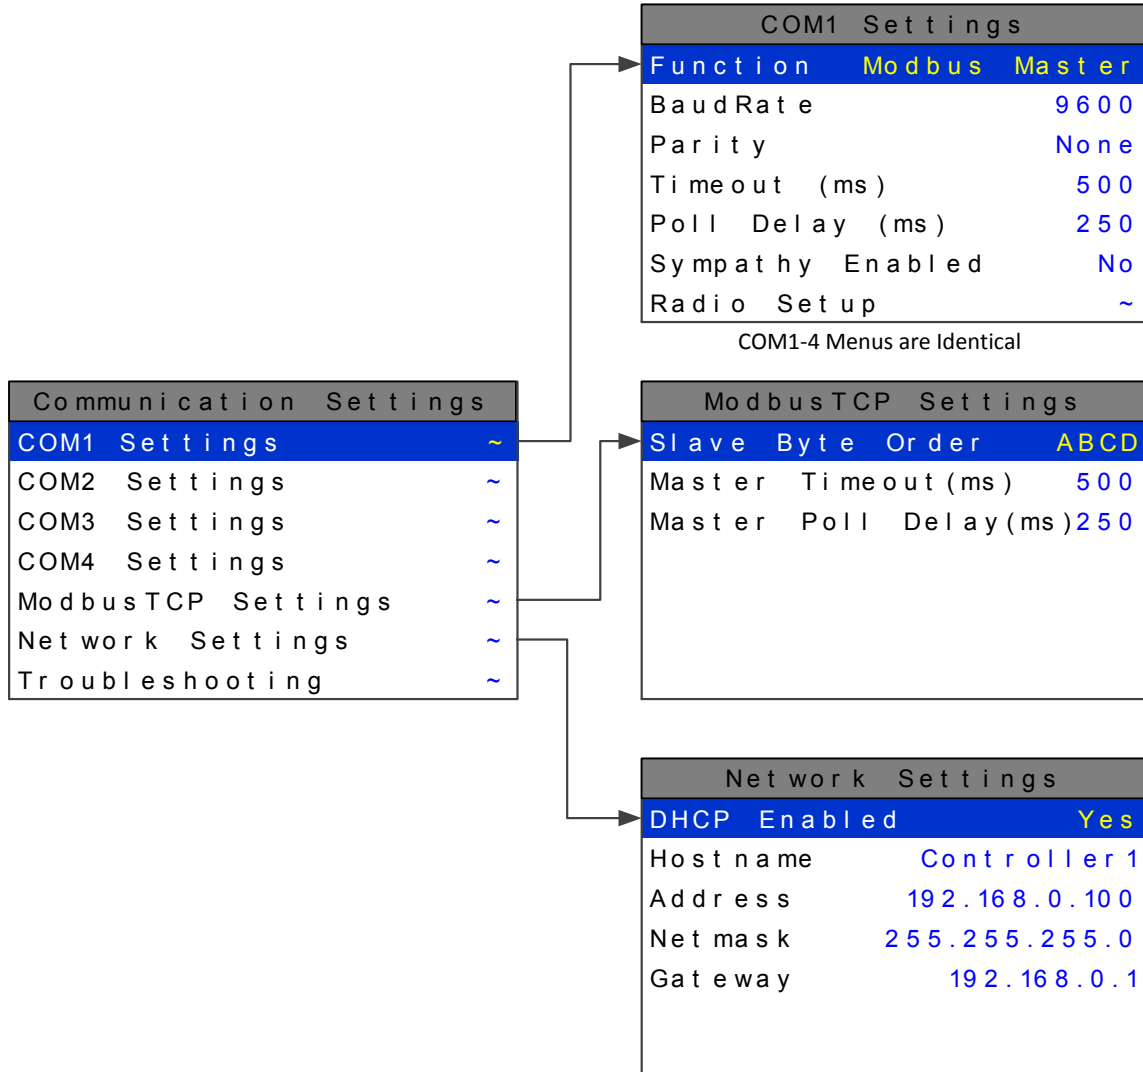

Figure 2-22
**COMMUNICATION SETTINGS** entry menu, show on left in Figure 2-22; use /  to scroll up or down to select the communication port that is to be configured.